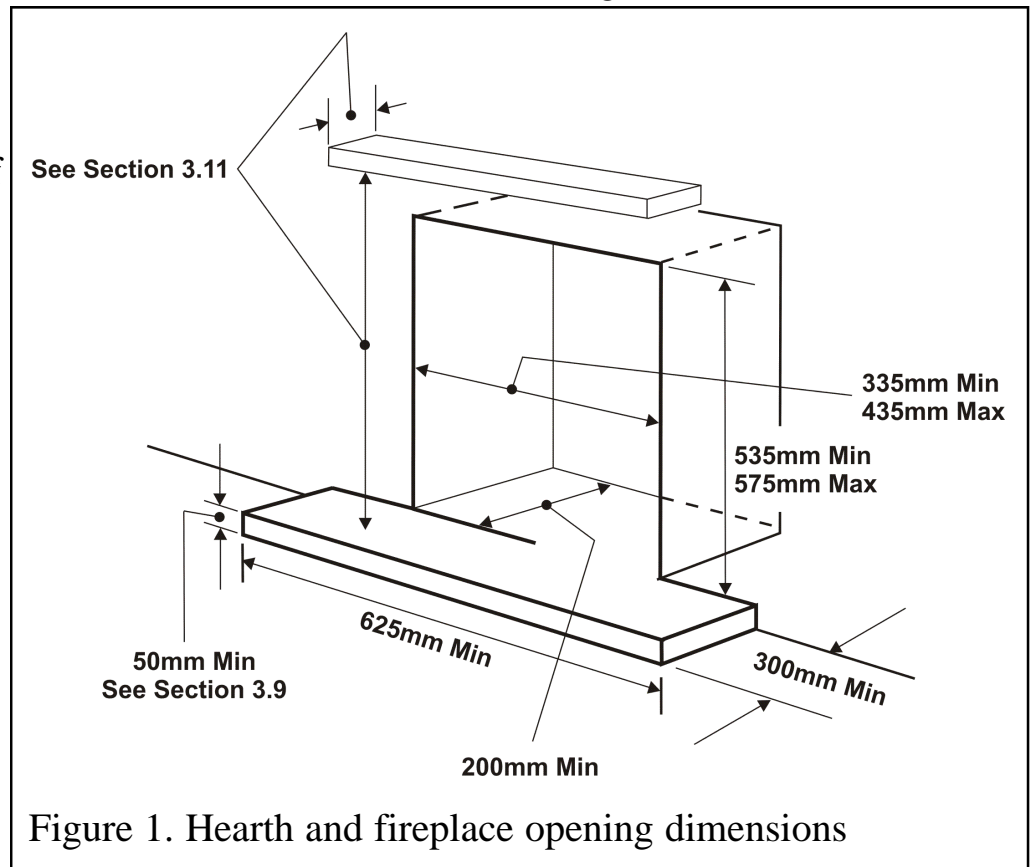

Figure 1. Hearth and fireplace opening dimensions
● It is recommended that a hearth should be installed as in figure 1.
**3.2.2** To a fireplace incorporating a metal flue box conforming to BS715 with a minimum internal depth of 150mm. Incombustible mineral wool insulation of not less than 50mm thickness must be applied to the top surface of the firebox (See figure 2) and it must stand on a non-combustible hearth (See figure 1).
The appliance must not stand on combustible materials or carpets (See figure 1).